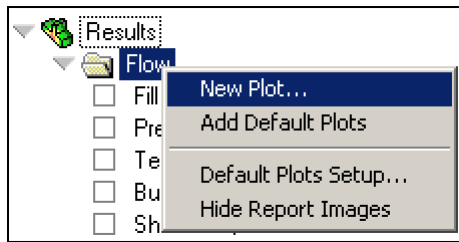

Figure 370: Create a new plot from the study tasks list
- Right-click in the Study Tasks list on the Results or folder icons and select New Plot, as shown in Figure 370.